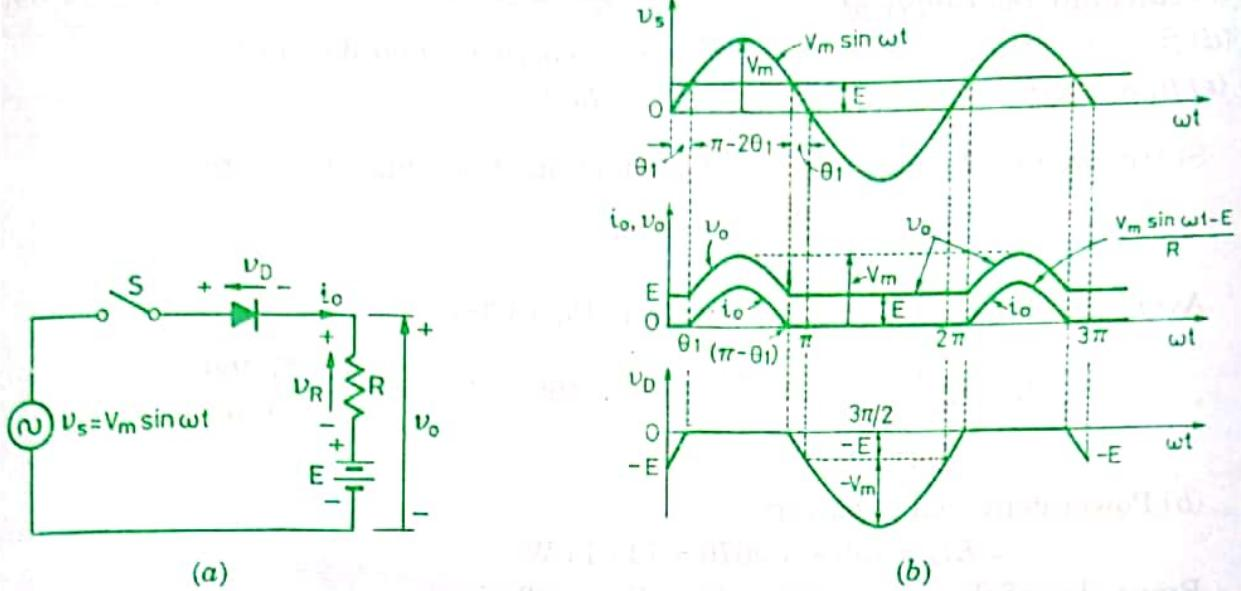

Fig. 3.17. Single-phase half-wave diode rectifier with  $RE$  load (a) circuit diagram and (b) waveforms.
(d) **RE Load :** Single-phase half-wave diode rectifier with load resistance  $R$  and load counter emf  $E$  is shown in Fig. 3.17 (a). If the switch  $S$  is closed at  $\omega t = 0^\circ$  or when  $v_s = 0$ , then diode would not conduct at  $\omega t = 0$  because diode is reverse biased until source voltage  $v_s$  equals  $E$ . When  $V_m \sin \theta_1 = E$ , diode  $D$  starts conducting and the turn-on angle  $\theta_1$  is given by
The diode now conducts from  $\omega t = \theta_1$  to  $\omega t = (\pi - \theta_1)$ , i.e. conduction angle for diode is  $(\pi - 2\theta_1)$  as shown in Fig. 3.17 (b). During the conduction period of diode, the voltage equation for the circuit is
It is seen from Fig. 3.17 (a) that at  $\omega t = 0^\circ$ ,  $v_D = -E$  and at  $\omega t = \theta_1$ ,  $v_D = 0$ . During the period diode conducts,  $v_D = 0$ . When  $\omega t = 3\pi/2$ ,  $v_s = -V_m$  and  $v_D = -(V_m + E)$ . Thus PIV for diode is  $(V_m + E)$ .
**Example 3.9.** A dc battery of constant emf  $E$  is being charged through a resistor as shown in Fig. 3.17 (a). For source voltage of 230 V, 50 Hz and for  $R = 8 \Omega$ ,  $E = 150 \text{ V}$